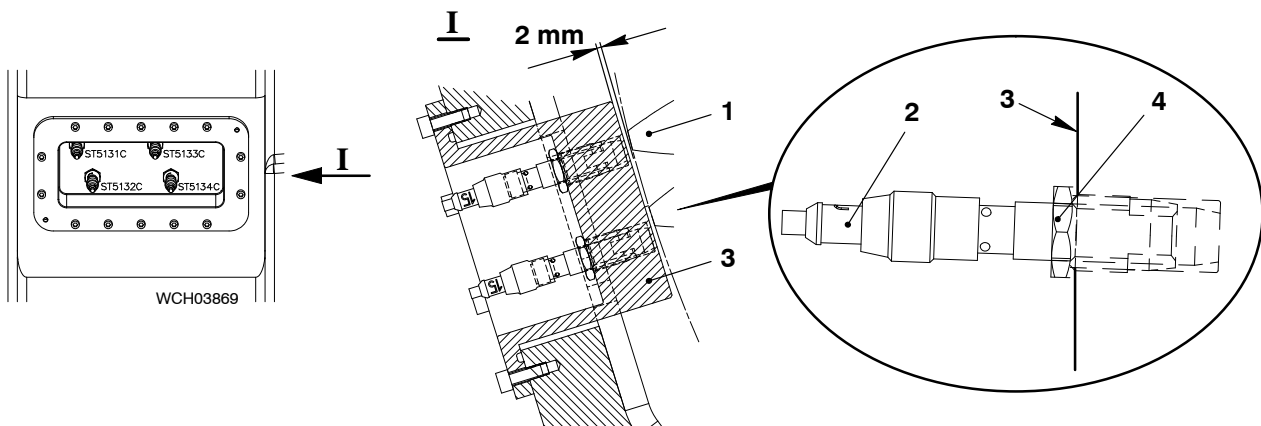

Fig. 2
- 2) Operate the turning gear to get a tooth (1, Fig. 2) of the intermediate wheel opposite the applicable proximity sensor (2).
- 4) Disconnect the applicable electrical connection from the proximity sensor (2).
- 5) Loosen the locknut (4).
- 6) Remove the proximity sensor (2) from the holder (3).
- 8) Attach the new proximity sensor (2) to the holder (3).
- 9) Turn the proximity sensor (2) fully down until the tip of the proximity sensor (2) touches the bottom of the holder (3).